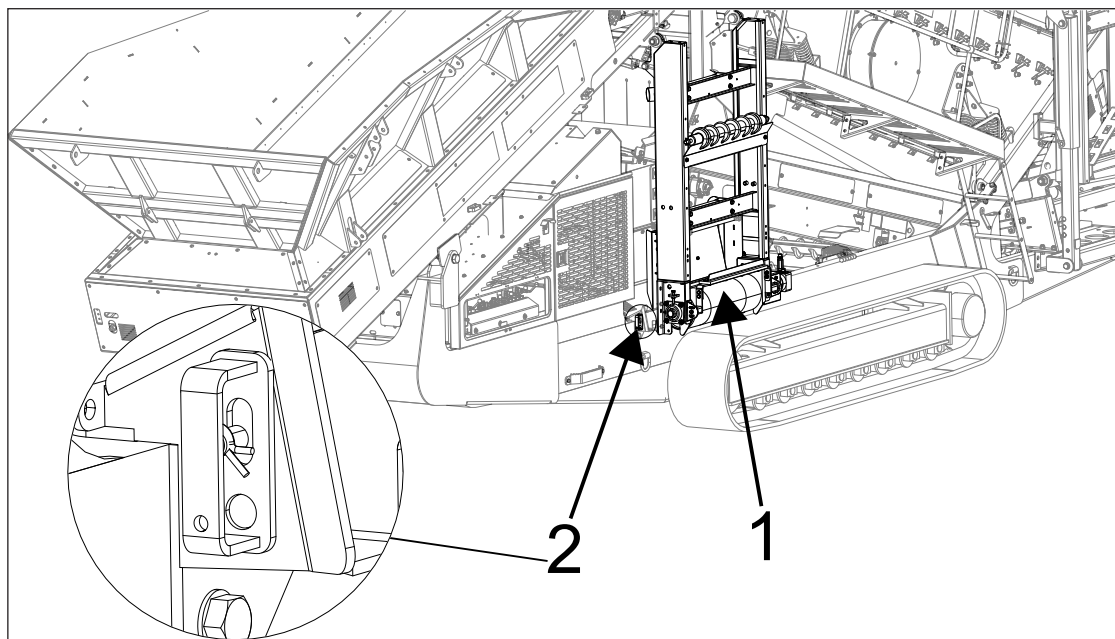

Figure 5.20 - Side Conveyor in transport position
10. Refit the pins to secure the conveyor for transport (Item 2, Reference: Figure 5.20).